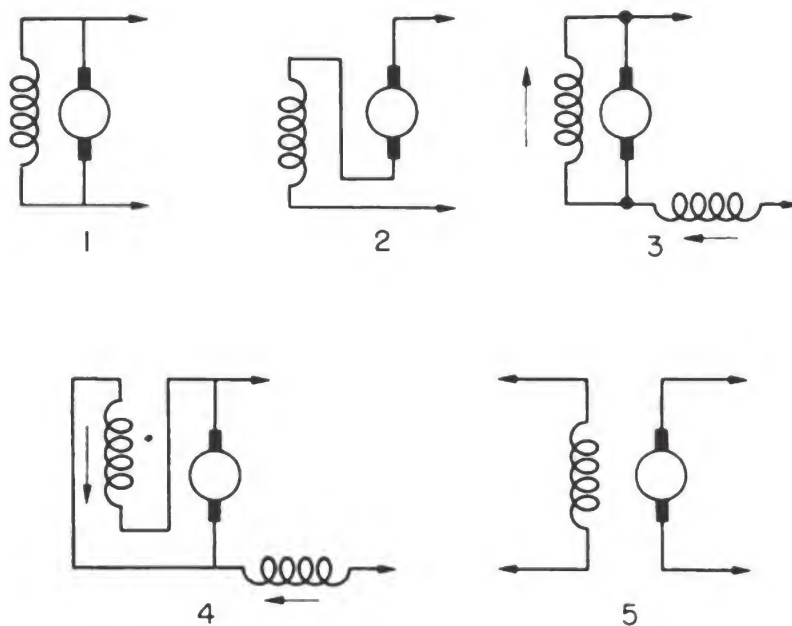

Figure 29.—Generator connections.
And—there are five ways of connecting generators, shown in figure 29—
The SHUNT connection—the armature and field are in parallel. This is the generator with the drooping voltage curve, figure 29 (1).
The series connection—the armature and field are in series. This is the generator with the rising voltage curve, figure 29 (2).
The CUMULATIVE COMPOUND connection—the armature is connected to two field windings, one in series and one in parallel, figure 29 (3). The windings carry current in the same direction and thus help each other produce the flux field. This generator can have a rising, a drooping, or a level-voltage curve.
The DIFFERENTIAL COMPOUND connection—the armature is connected to two field windings, one in series and one in parallel. But the two windings carry current in opposite directions, figure 29 (4). They oppose each other and produce a weaker field. This is the generator with a full drooping voltage curve.
The SEPARATELY-EXCITED connection—the armature has no connection with its own field, figure 29 (5). This generator may have any kind of a voltage curve depending on the field adjustment.